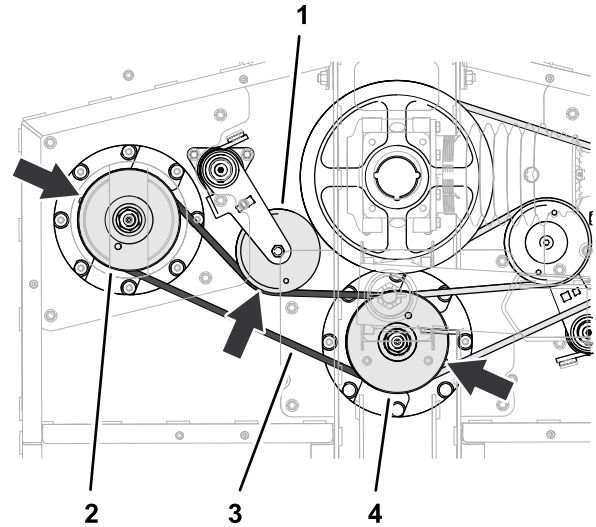

Figure 61
2. Route the long belt around the left-spindle pulley and the lower groove of the center-spindle pulley (Figure 61).
3. Use a breaker bar or similar tool to rotate the belt tensioner counterclockwise and slip the belt over the tensioner pulley (Figure 61).